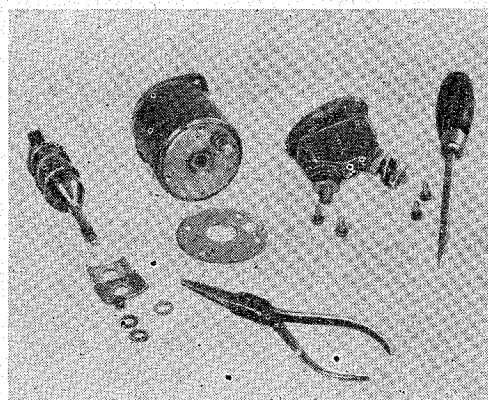

Fig. 92.
1. After having screwed out the four bolts from the cover of the cut-out switch, take off the cover complete with insulation liners (see Fig. 92).